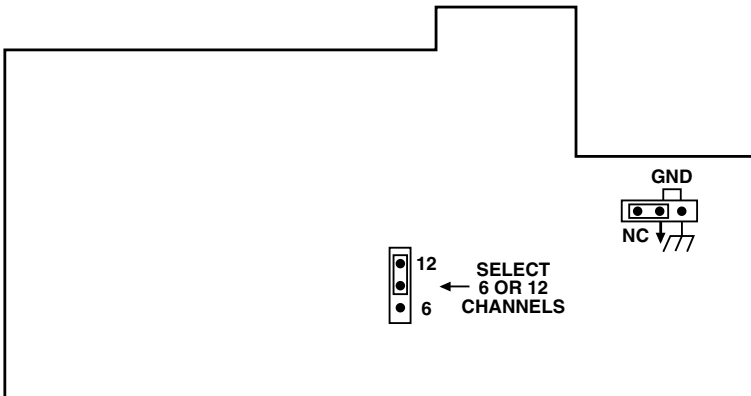

Figure 3-1. Strapping Diagram.
- c) Locate the strap marked “select 6 or 12 channels” (indicated by an arrow on the circuit board). For up to 6 channels with no control applications, place the strap between the center pin, and the one marked “6.” For any other applications, place the strap between the center pin and the one marked “12” (refer to Figure 3-1).
- d) Locate the strap marked GND. According to your requirements, set the signal ground to be connected to shielding (chassis) ground or floating (NC).